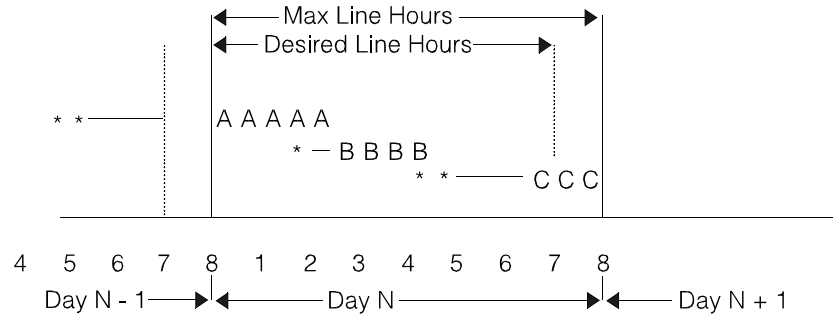

Figure 2-20. Scheduling algorithm
In the example in Figure 2-20, 8.0 hours are assigned to today's line loading, while 2.5 hours are assigned to the previous day's loading.
**Determining schedule start and stop times** . Scheduling identifies a schedule's start and stop times so that component material requirements for the schedule can be estimated more accurately. In particular, end-to-end scheduling is concerned with those schedules that may overlap multiple days of production (such as a schedule that starts on day N-1 and is completed on day N). In the example in Figure 2-20, the component material is either initially required at the line on day N-1, or on both days N-1 and N, depending on when the schedule starts (or finishes), the time between operations, production line capacity by day, and the operations to which materials are assigned.